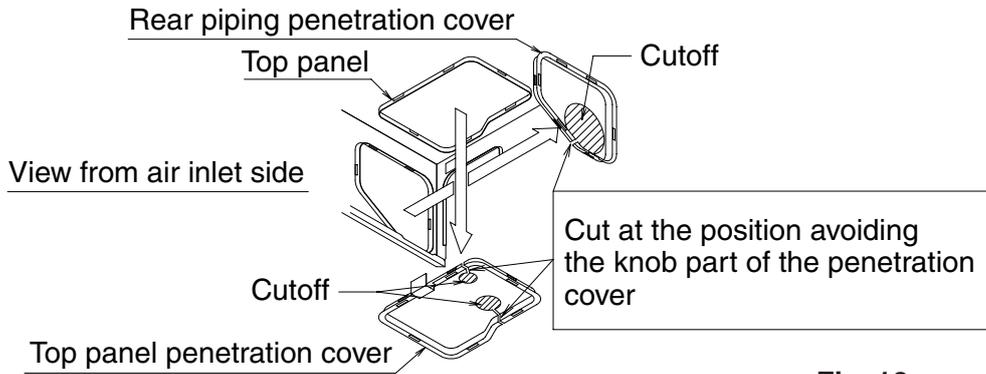
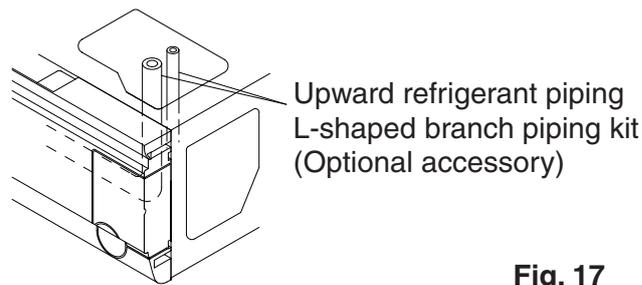
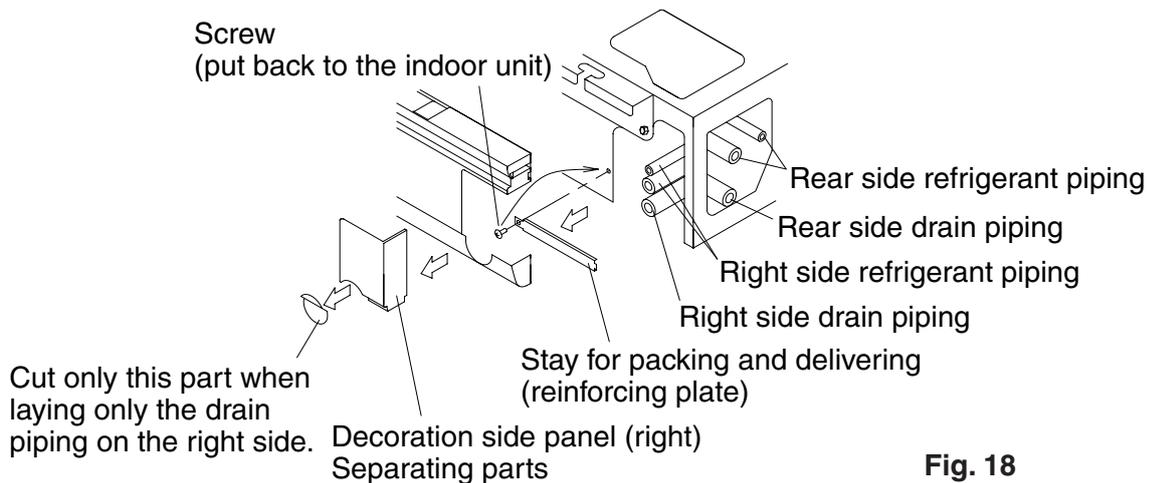
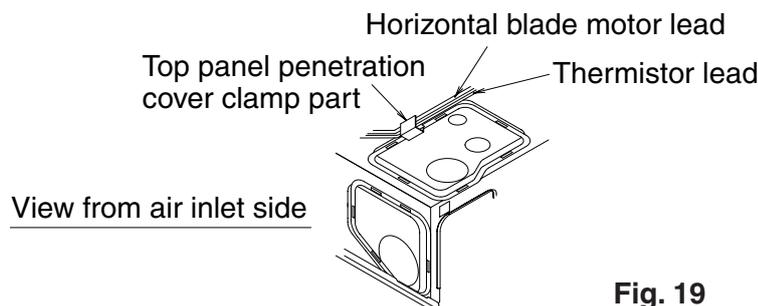

Fig. 16
Fig. 17
Fig. 18
Fig. 19
(Refer to Fig. 18)
(1) For rear side piping
- Remove the rear piping penetration cover, and connect the piping. **(Refer to Fig. 16 and Fig. 18)**
(2) For upward piping
- Remove the top panel penetration cover, and use the L-shaped connection piping kit (optional accessory) to conduct piping. **(Refer to Fig. 16 and Fig. 17)**
(3) For right side piping
- Remove the stay for packing and delivering (reinforcing plate) at the right side, and put back the screw to the original position of the indoor unit. **(Refer to Fig. 18)**
- Open the knockout hole at the decoration side panel (right), and connect piping. **(Refer to Fig. 18)**
- After piping is finished, cut the removed penetration cover along the shape of piping, and install. Also, for top panel penetration cover, as it was before removed, put the horizontal blade motor lead and thermistor lead through the clamp of the top panel penetration cover and fix. **(Refer to Fig. 16 and Fig. 19)** When doing this, block any gaps between the piping penetration cover and the piping using putty to prevent dust from entering the indoor unit.
(1) Carry out drain piping.
- Drain piping can be connected from the following directions: For right rear/right side, refer to **Fig. 18** of “6. REFRIGERANT PIPING WORK”, and for left rear/left side, refer to **Fig. 21**.